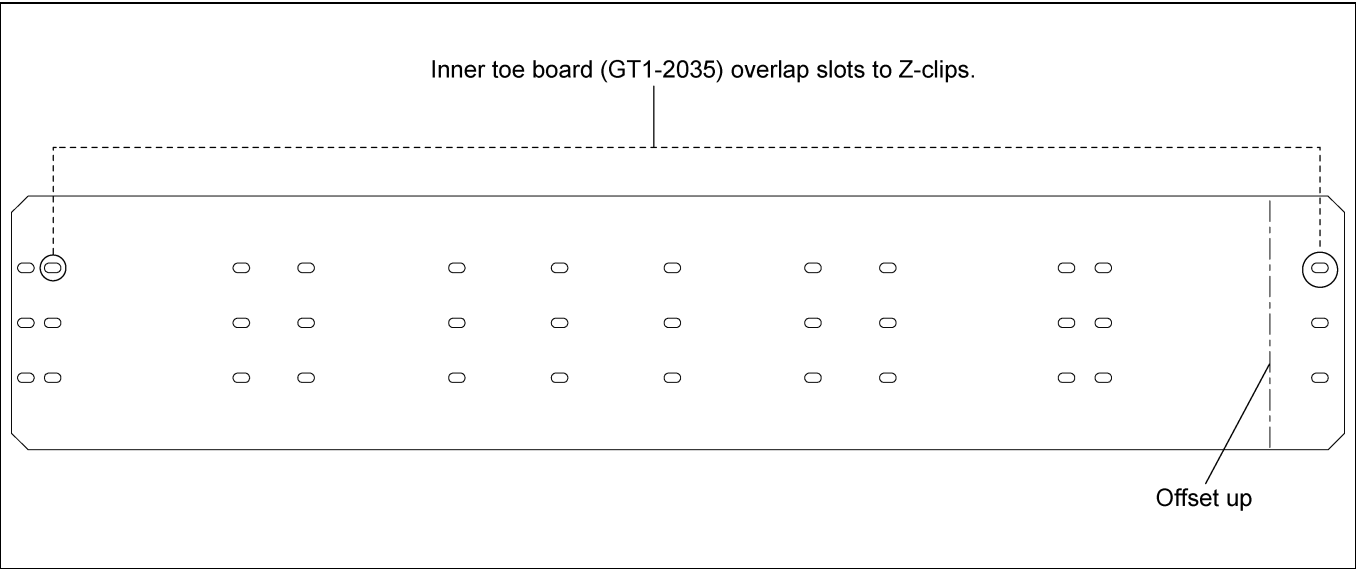

Figure 6L 18' Inner Toe Board (GT1-2035)
3. Inner toe board is arranged with overlap slots on each side. Install 18' offset and roof hatch inner toe boards (GT1-2035) to corresponding slots as shown in Figure 6L.